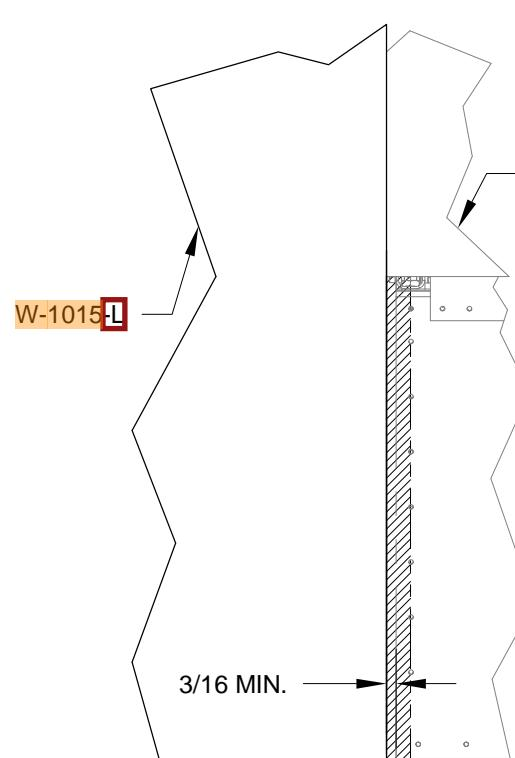
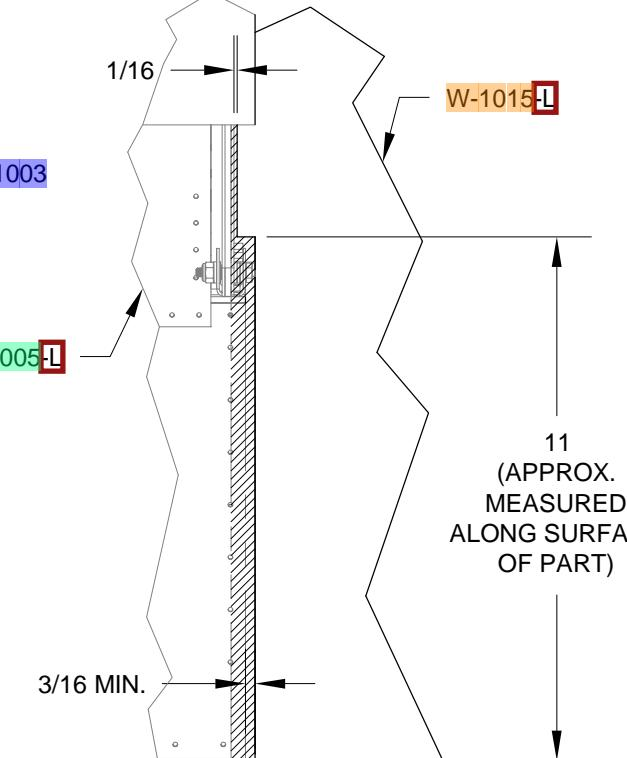
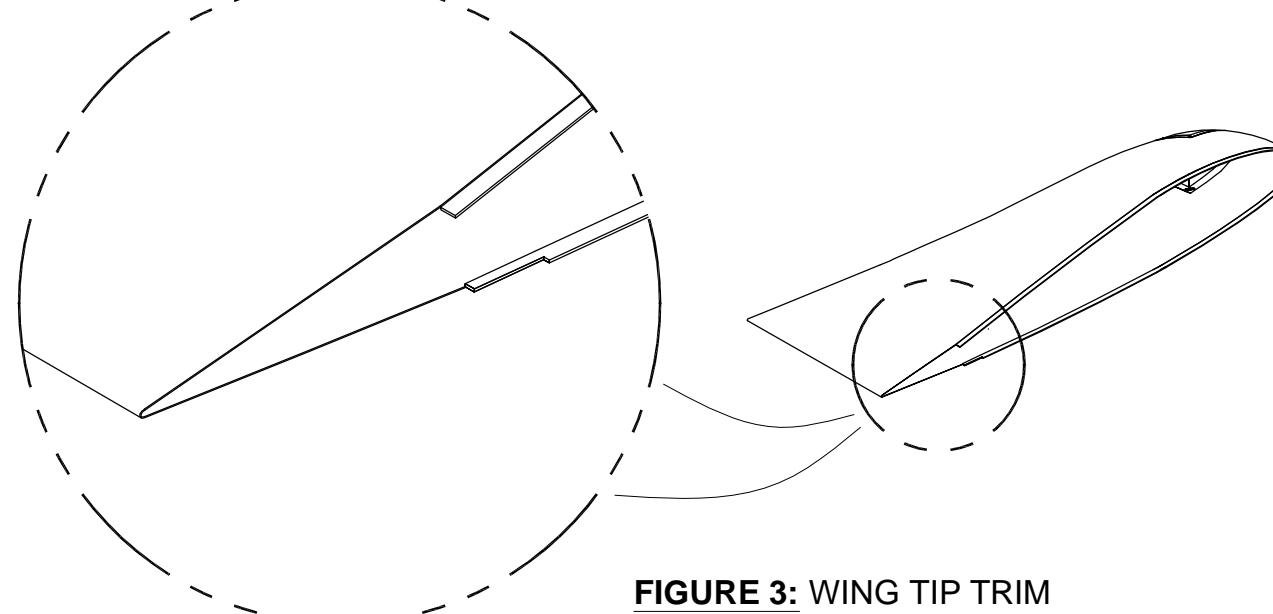

FIGURE 1: WING TIP TOP TRIM
FIGURE 2: WING TIP BOTTOM TRIM
FIGURE 3: WING TIP TRIM
Step 1: Trim away material in the shaded areas from the **W-1015-L** Wing Tip as shown in Figure 1, Figure 2 and Figure 3. This will provide clearance between the wing tip, the **W-1014** Outboard Aileron Hinge Bracket Assembly and the aileron assembly. Trim both the top and bottom sides of the wing tip to provide a $3/16$ minimum gap between the wing tip and the outboard edge of the aileron assembly (see Figure 1 and Figure 2). Trim the top of the wing tip even with the aft edge of the **W-1003** Wing Skin (see Figure 1). Trim the bottom of the wing tip starting with the dimensions given in Figure 2. Check that this trim provides a $3/16$ gap between the forward edge of the **A-1006** Outboard Hinge Bracket and the wing tip when the aileron is rotated to full up deflection. See Section 23 for aileron travel.